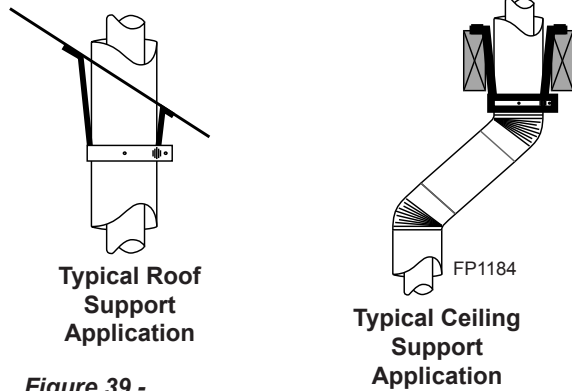
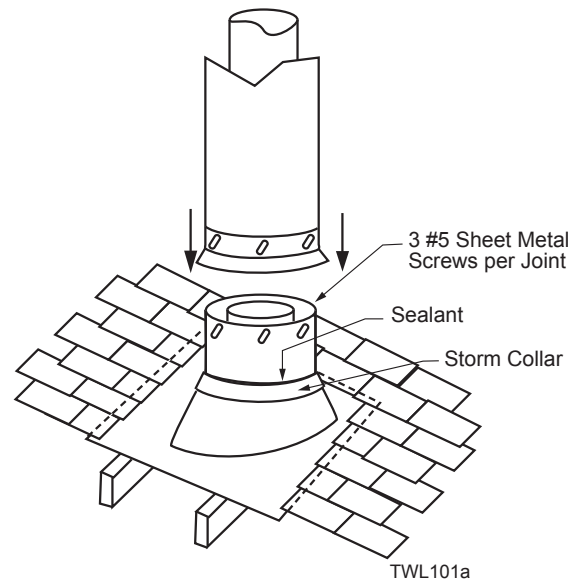

Figure 39 - Venting Supports
Figure 41 - Roof Flashing
- 7DVCS supports offsets. *Figure 39*. This application will require that you first determine the roof pitch and use the appropriate starter kit. (Refer to Venting Components List)
7. Install roof support (*Figure 39*) and roof flashing making sure upper flange is below the shingles. *Figure 41*
8. Install appropriate pipe sections until the venting is above the flashing. *Figure 41*
10. Add additional vent lengths for proper height. *Figure 41*